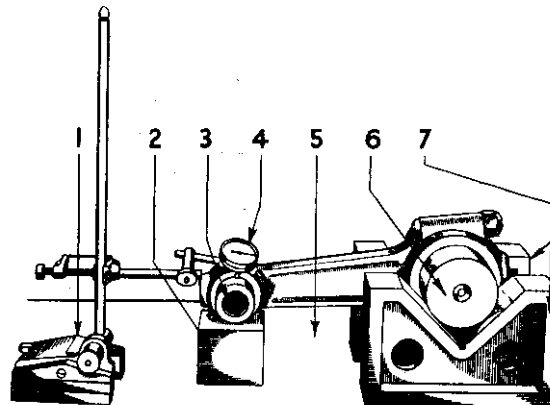

Fig. 3
- v. Lower connecting rod through 90° (Fig. 3) and take further readings on either side of the rod and the readings should be the same.
IMPORTANT Take great care when filing the joint faces of the cap to ensure that when the assembly is finally tightened these faces make solid contact with the corresponding faces on the connecting rod. In all cases, the "nip" of the connecting rod cap on the bearing should be carefully checked, see Fig. 3, S.V.9 and the gap should be .0015"/.002" on one side ONLY.